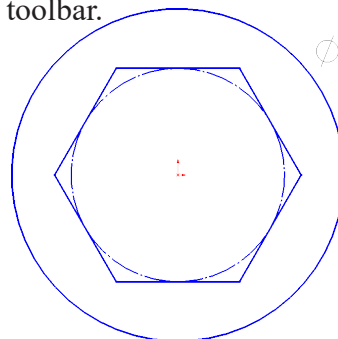

Fig. 4
Step 7. Click **Circle**  (S) on the Sketch toolbar.
Step 8. Sketch **circle** starting at Origin , **Fig. 4**.